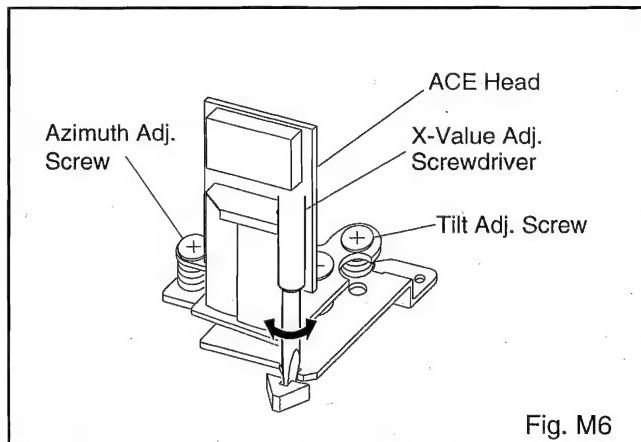

Fig. M6
4. If creasing or snaking is apparent, adjust the Tilt Adj. Screw of the ACE Head. (Fig. M6)
4. Use the X-Value Adj. Screwdriver so that the PB FM signal at J101 (V-ENV) is maximum. (Fig. M6)
- Adjust Azimuth Adj. Screw so that the output level on the AC Voltmeter or the waveform on the oscilloscope is at maximum. (Fig. M6)